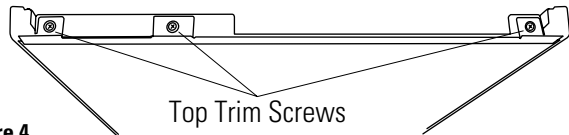

Figure 4
- Remove the 3 screws holding the top trim to the steel panel (Figure 4). Set aside the top trim piece and the 3 screws.